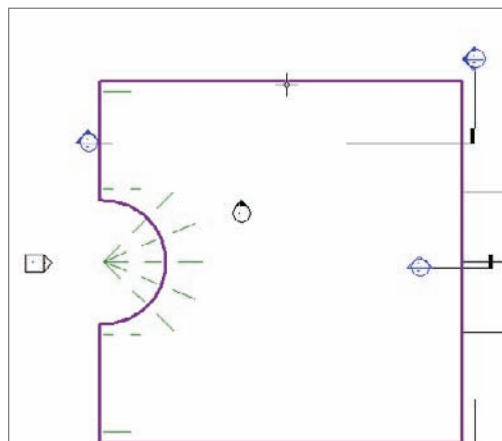

FIGURE 12.84 Picking the roof. Your work plane is now set to slope with the roof. Anything you draw will be on this sloping plane.
5. Pick the roof, as shown in Figure 12.84.